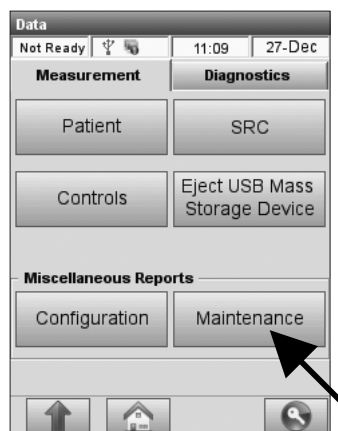

Fig. 6-27 Maintenance
2. In the **<Data>** screen on the **<Measurement>** tab, select **<Maintenance>** (Fig. 6-27).